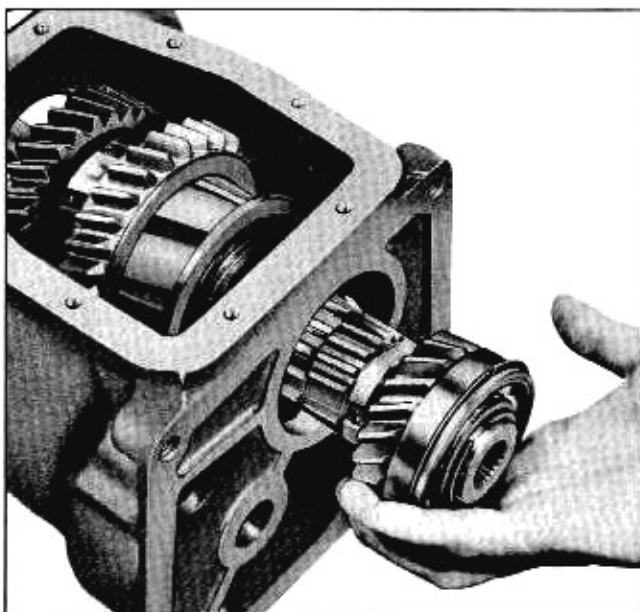

Fig. 7-45 Installing Mainshaft and Clutch Gear
18. Place the mainshaft in clutch gear and, from the front of the case, insert the mainshaft through the bores of the clutch sleeve and second speed gear (Fig. 7-45).